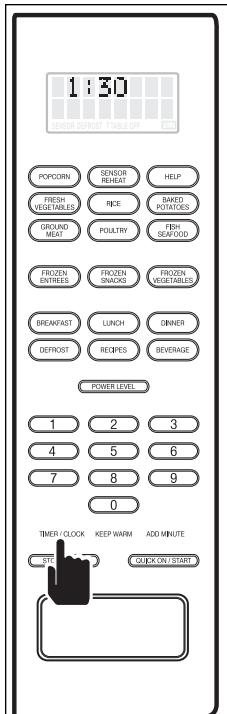

Figure 3-20.
4. After the correct time of day is entered, press the TIMER/CLOCK key again to exit Clock Set Mode (See Figure 3-20).